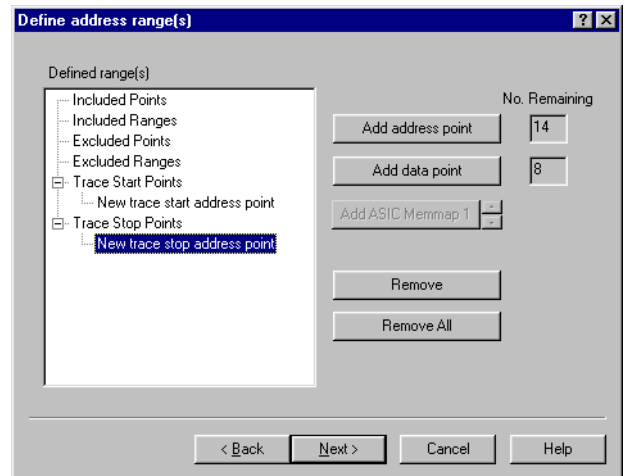

Figure 8-49 Defined address range(s) dialog box
4. Click on **Next>**. The Defined address range(s) dialog box shown in Figure 8-49 is displayed.